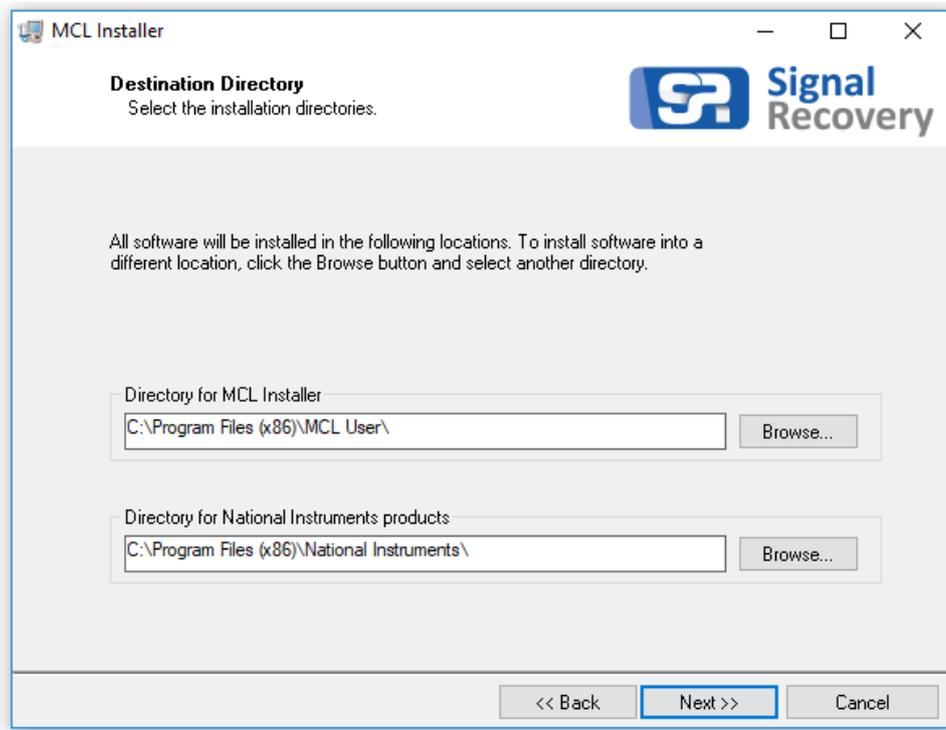

Figure 3, MCL Software Installation Program
- 3) After accepting a warning indicating the software is signed by AMETEK, Inc (the parent company of **SIGNAL RECOVERY**), the installation program will start, as shown in figure 3 below.